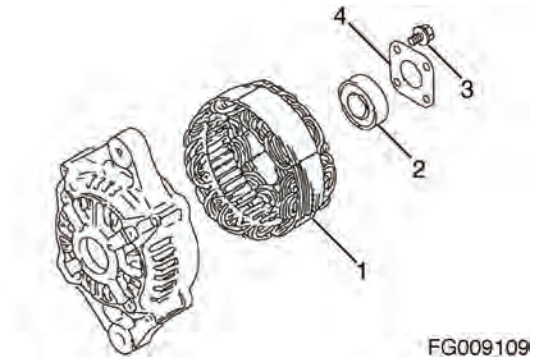

Figure 395
2. If removed, lubricate the outside diameter of a new front frame housing bearing. Press the bearing (2, Figure 395) into the front frame housing. Reinstall the plate (4, Figure 395) to the front housing. Tighten the four bolts (3, Figure 395).
3. Position the stator assembly (1, Figure 395) on the front frame housing studs.